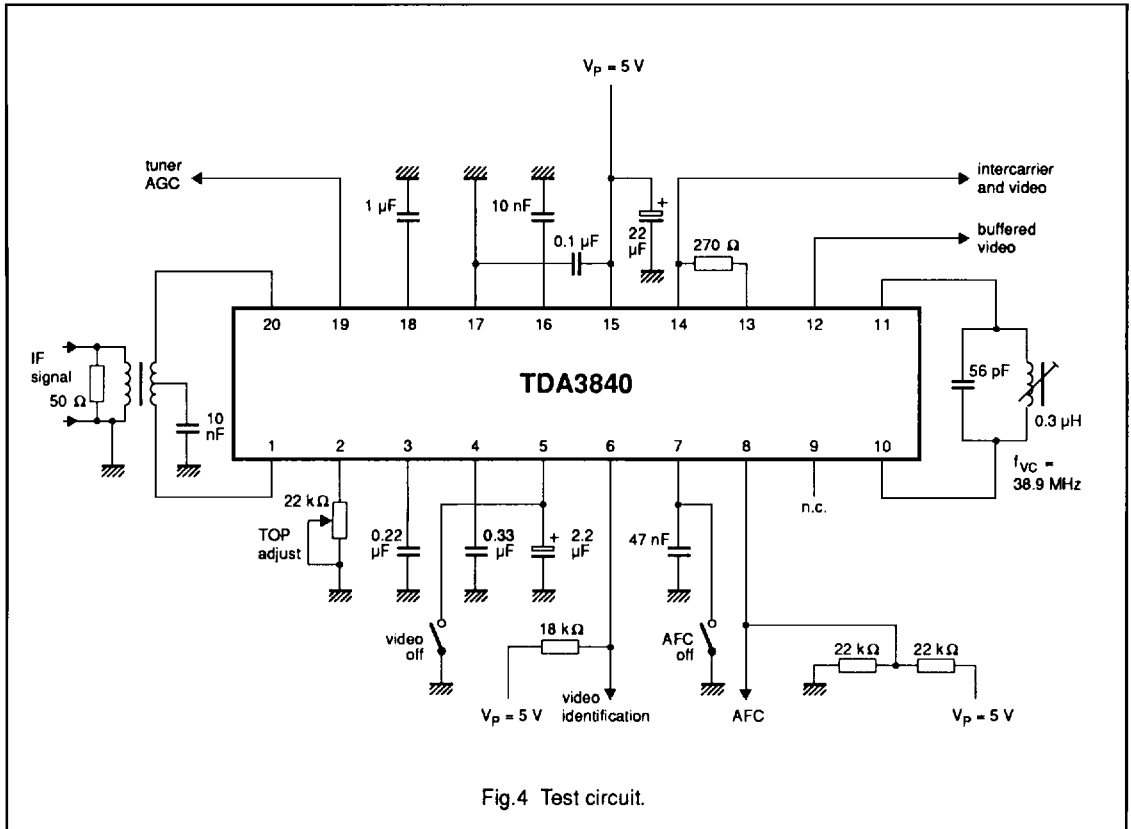

Fig.4 Test circuit.
$V_P = 5\text{ V}$  and  $T_{amb} = 25\text{ °C}$ ;  $f_{VC} = 38.9\text{ MHz}$ ; all voltages are measured to GND (pin 17); measured in test circuit of Fig.4.; unless otherwise specified.
- IF input signals are RMS values measured at TOP sync (standard B/G) and with a vision carrier of 38.9 MHz (see Fig.4). The IF input signal is fed from 50  $\Omega$  via a 1:1 transformer, DSB, to pins 1 and 20. With a 10 mVRMS IF input signal, the residual vision carrier is:
- In the test circuit of Fig.4, measured and weighted according to CCIR Recommendation 567: